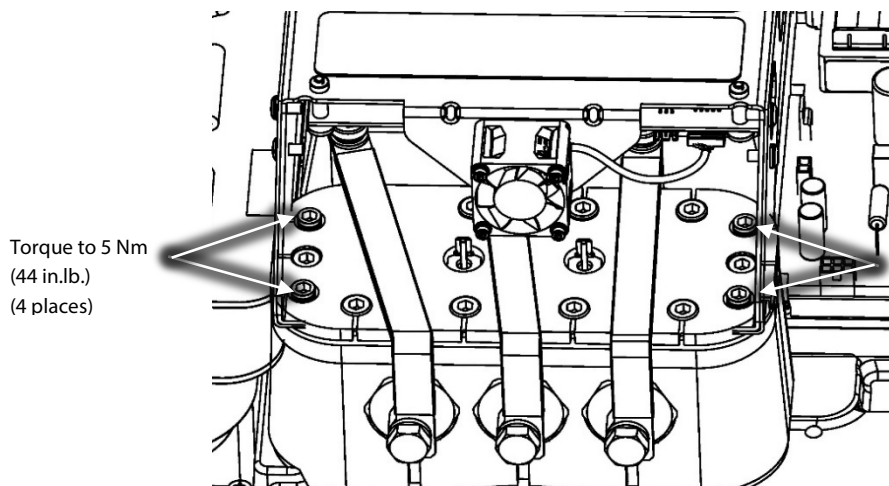

Figure 4 – Soft Start Mounting Screws
- Remove the M5x15 fasteners that secure the Soft Start mounting bracket to the compressor. Refer to Figure 4 (Soft Start Mounting Screws).